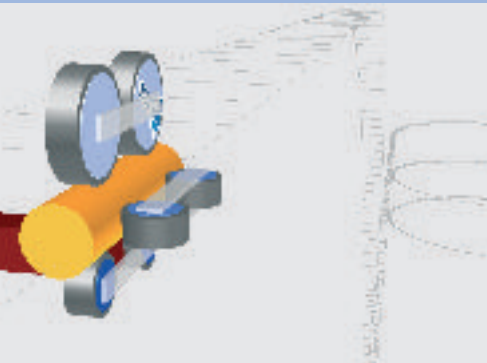

Fig. 2: Roller Coaster Model with Wheels on the Side and on the Underside of the Rail
- Contact on the side und underside of the rail (roller coasters, fig. 2),